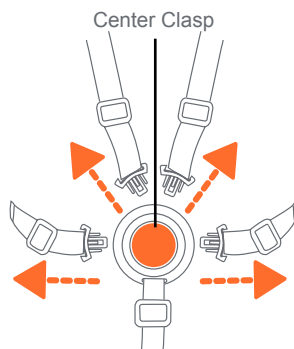

Fig. 11
11) • Push Button on Center Clasp, the two Harness Buckles will pop free (Fig. 11).